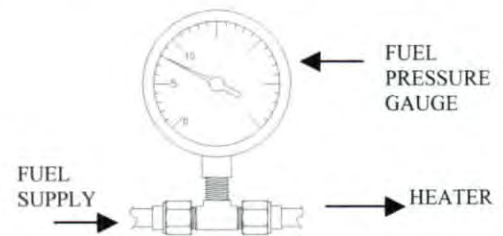

Figure 1
- C. Install the fuel pressure gauge (0-15). Tee into as shown. (Fig. 1)